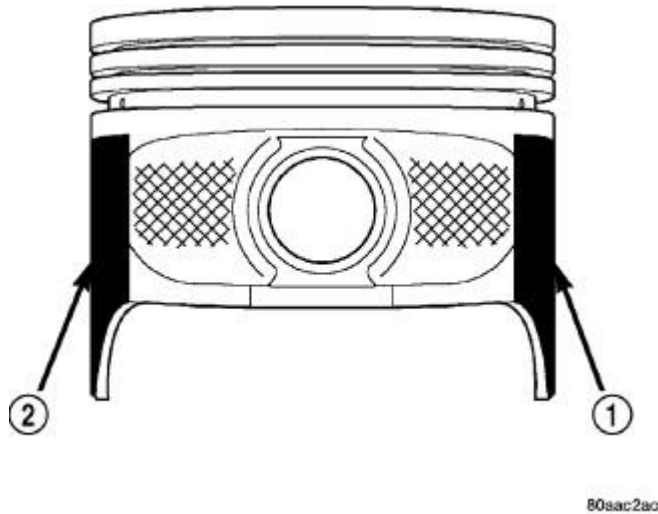

Fig. 106: Moly Coated Piston
- The coated pistons (1, 2) will be serviced with the piston pin and connecting rod pre-assembled. Refer to **Fig. 106**.